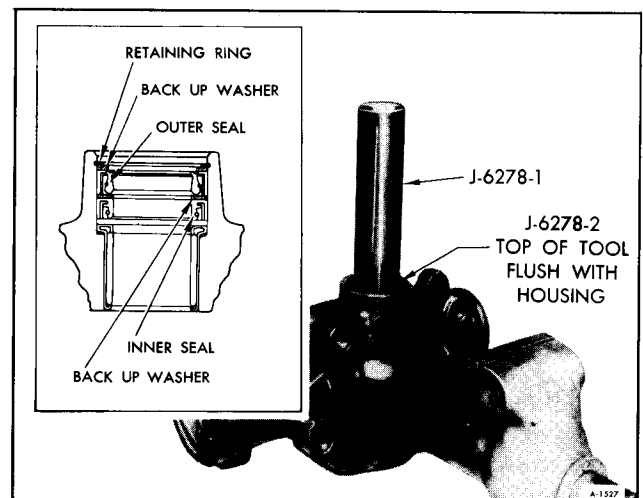

Figure 47—Installing Pitman Shaft Seals
b. Drive the seals into the housing until the top of Adapter J-6278-2 is flush with the housing (figure 47).
d. Reinsert Tool J-6278 with Adapter J-6278-2 and continue driving the seals until the retaining ring seats in its groove (Refer to inset, figure 47), then remove the tool and adapter.